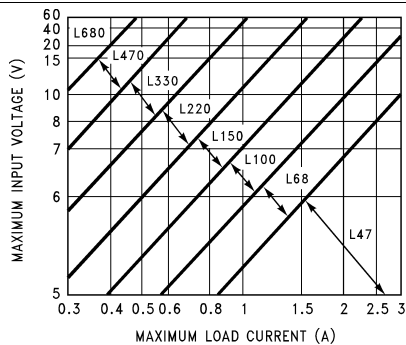
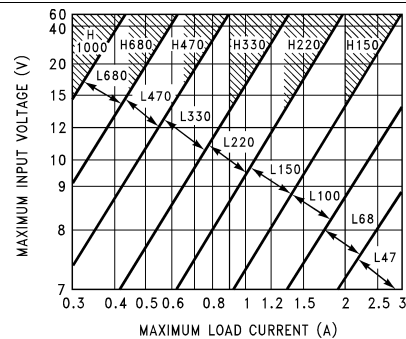
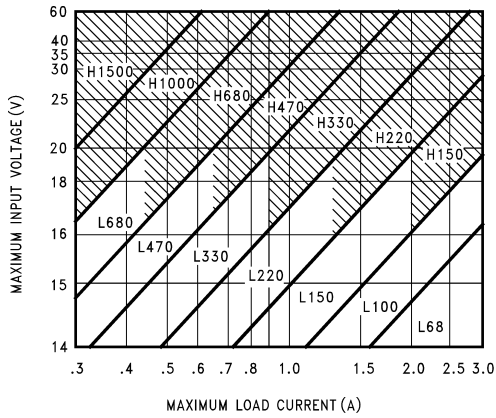
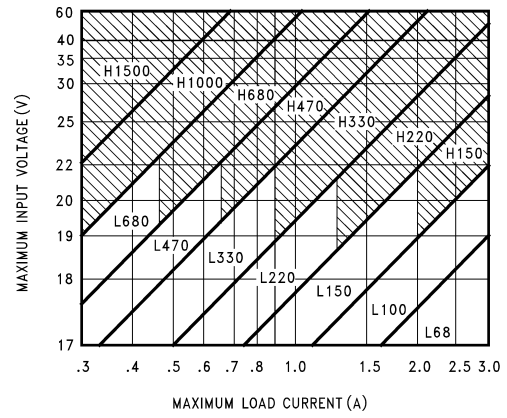

Figure 27. LM2576(HV)-3.3
Figure 28. LM2576(HV)-5.0
Figure 29. LM2576(HV)-12
Figure 30. LM2576(HV)-15
The inductor value selection guides in Figure 27 through Figure 31 are designed for buck regulator designs of the continuous inductor current type. When using inductor values shown in the inductor selection guide, the peak-to-peak inductor ripple current is approximately 20% to 30% of the maximum DC current. With relatively heavy load currents, the circuit operates in the continuous mode (inductor current always flowing), but under light load conditions, the circuit is forced to the discontinuous mode (inductor current falls to zero for a period of time). This discontinuous mode of operation is perfectly acceptable. For light loads (less than approximately 300 mA), it can be desirable to operate the regulator in the discontinuous mode, primarily because of the lower inductor values required for the discontinuous mode.
1. Select the correct Inductor value selection guide from Figure 27, Figure 28, Figure 29, or Figure 30. (Output
voltages of 3.3 V, 5 V, 12 V, or 15 V, respectively). For other output voltages, see the design procedure for the adjustable version. Use the selection guide shown in Figure 28.
- Identify the inductor value from the inductor code, and select an appropriate inductor from the table shown in Figure 27. Part numbers are listed for three inductor manufacturers. The inductor chosen must be rated for operation at the LM2576 switching frequency (52 kHz) and for a current rating of $1.15 \times I_{LOAD}$. For additional inductor information, see the Inductor Selection section. Inductor value required is 100 μH from the table in Figure 27. Choose AIE 415-0930, Pulse Engineering PE92108, or Renco RL2444.